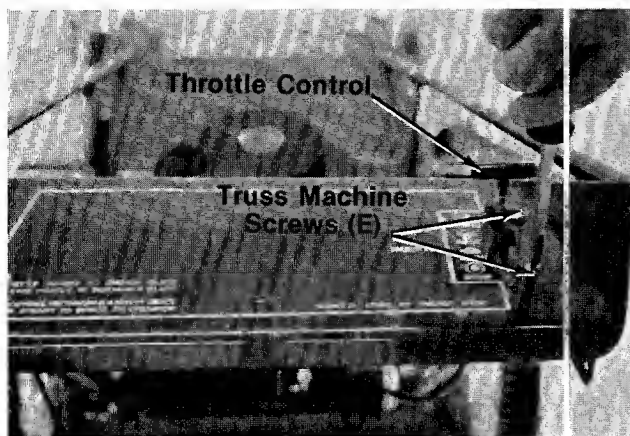

FIGURE 8.
Place the speed nuts (F), flat side up, onto the throttle control. Place throttle control lever up through the hole in the handle panel. Secure with truss machine screws (E) as shown in figure 8.